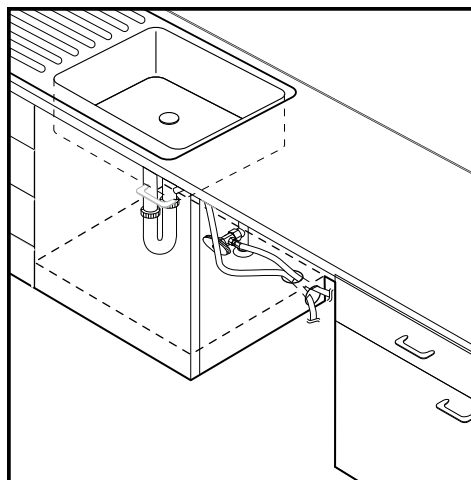

Figure 1-2
2. If the base inside the sink cabinet is raised above the kitchen floor and is higher than the connections on the dishwasher, make a hole in the base inside the cabinet and in the cabinet side as shown in Figure 1-2.